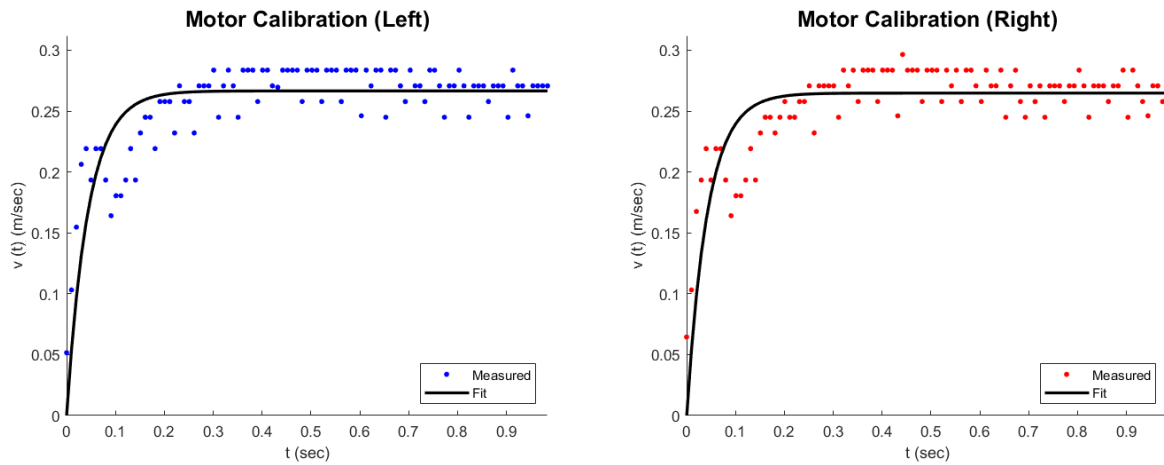

Figure 2: Motor Calibration Data (Left and Right)
We then created a line of best fit on the collected input-output measurements, as we can see in figure 2, and the time constant (τ) and gain (K) were estimated, which resulted in